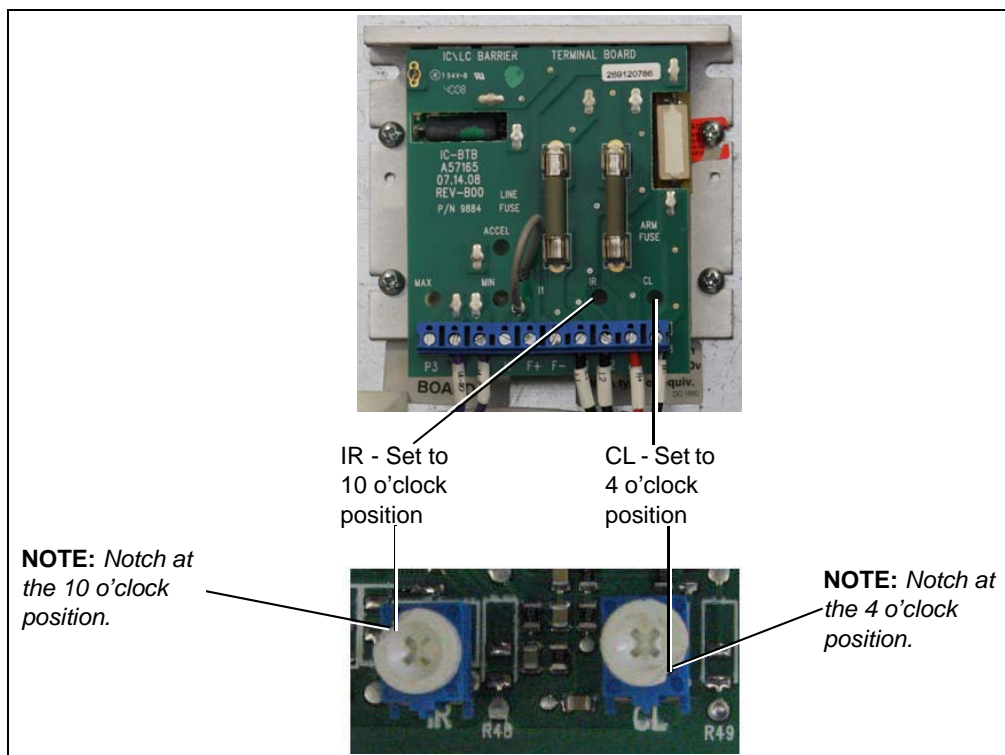

Figure 3B SCR Board IR and CL Adjustment Locations
- The indentation of the adjustment knob should be set at the 10 o'clock position. If it is not set at the 10 o'clock position, adjust as necessary by using a small screwdriver. (See Figure 3B.)
- The indentation on the adjustment knob should be set at the 4 o'clock position. If it is not set at the 4 o'clock position, adjust as necessary using a small screwdriver. (See Figure 3B.)
**IMPORTANT:** Before starting the calibration procedure, it is important to check the position of the adjustment knobs on these two (2) potentiometers for the correct position. These settings will always be the same.
**NOTE:** If these two (2) potentiometer settings are not correct, the SCR motor may stall before it should, blow fuses, or make it impossible to correctly calibrate the SCR Board. For example, if the 5% setting is correct but the 100% setting is incorrect, adjusting the 100% setting will throw off the 5% setting and so on.